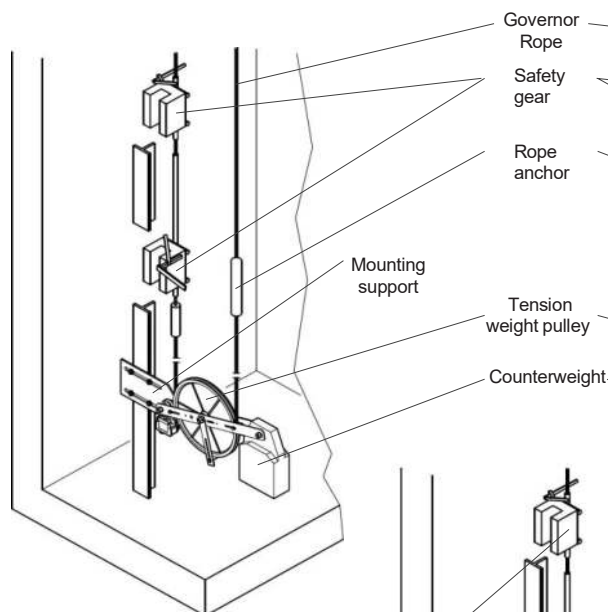

Fig. 1
- in no case, the counterweight must touch the floor (fig. 1 and 3), otherwise, the function of the overspeed governor is put out of operation.